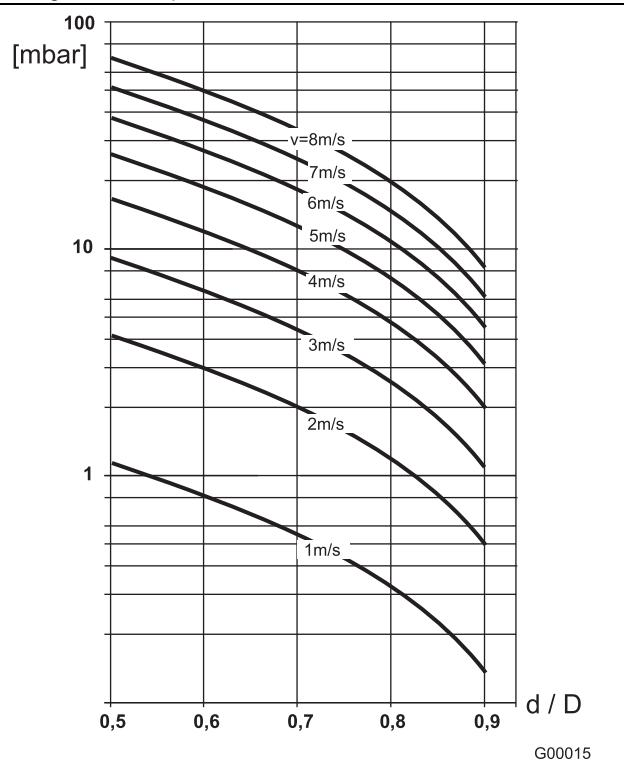

Fig. 24
- Determine the flow velocity based on the flow range nomograph (Fig. 24).
- Read the pressure drop on the Y-axis in Fig. 24.